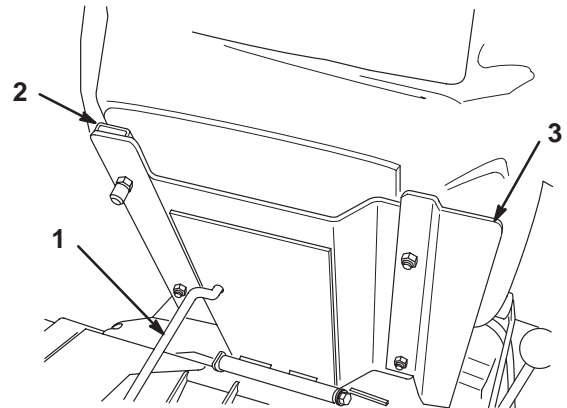

Figure 6
3. Secure the seat, seat panel, and seat slides to the seat support with the locknuts (5/16 in.) (Fig. 6) supplied in the loose parts. Mount the seat panel on the right side, positioned as shown in Figure 6.